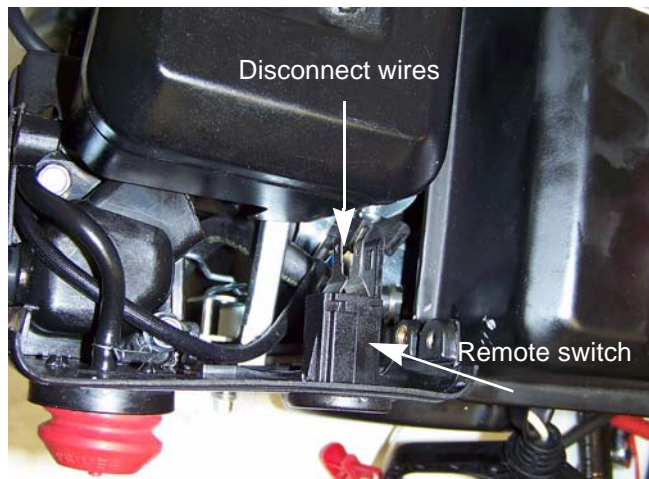

Figure 7.5
2. Disconnect the two wires from the remote switch. See Figure 7.5.